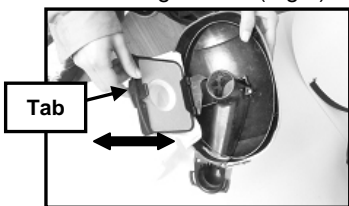

Fig. 2
3. Pull the tab on the HEPA dust bag holder out slightly and flip upwards. (Fig 2)
4. Holding the HEPA dust bag in your hand, slide it firmly between the slots in the bag holder. (Fig 2)